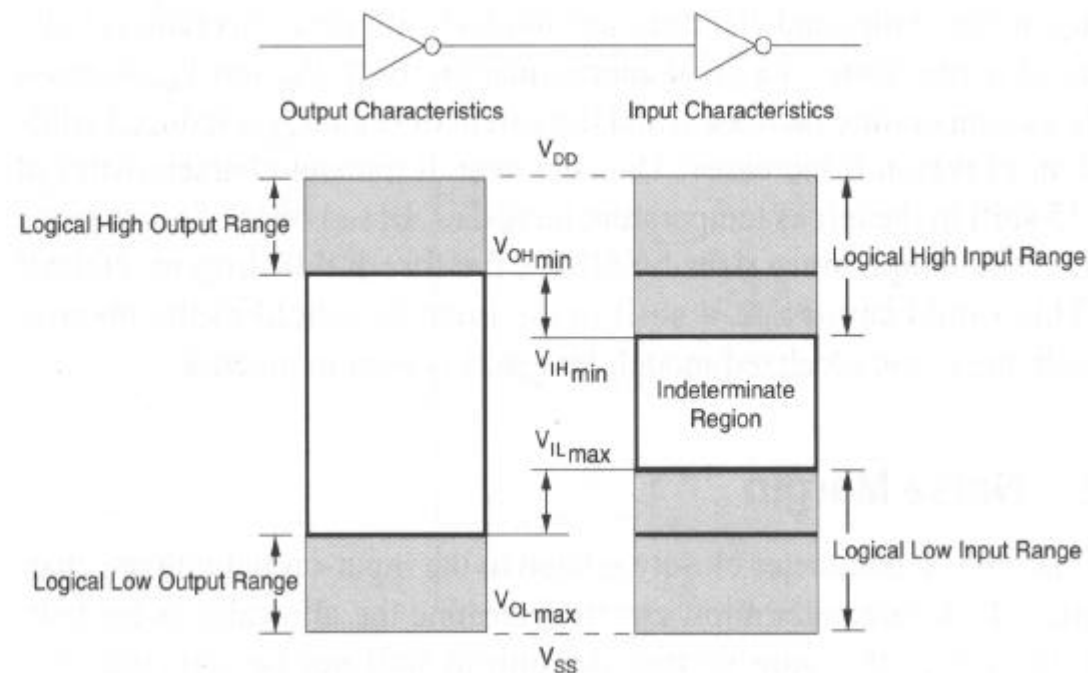

FIGURE 2.16 Noise margin definitions
- The LOW noise margin $NM_L = |V_{IL\max} - V_{OL\max}|$: defined as the difference in magnitude between the maximum LOW output voltage ($V_{OL\max}$) of the driving gate and the maximum input LOW voltage ($V_{IL\max}$) recognized by the driven gate (Figure 2.16).
- The HIGH noise margin $NM_H = |V_{OH\min} - V_{IH\min}|$: defined as the difference in magnitude between the minimum HIGH output voltage ($V_{OH\min}$) of the driving gate and minimum HIGH voltage ($V_{IH\min}$) recognized by the driven gate. (see Figure 2.16)